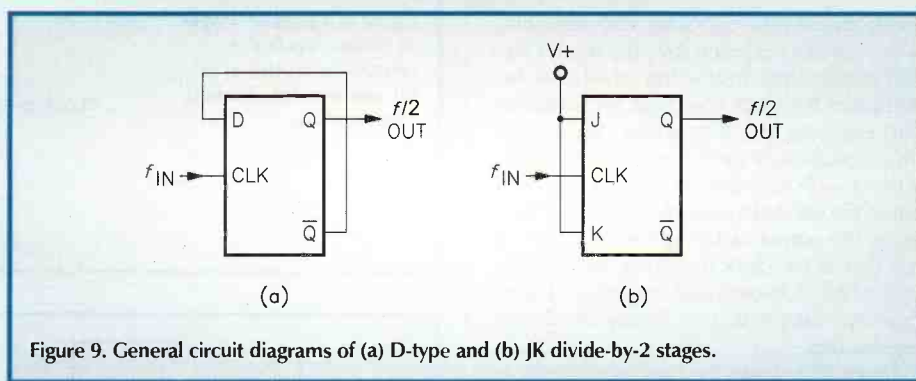
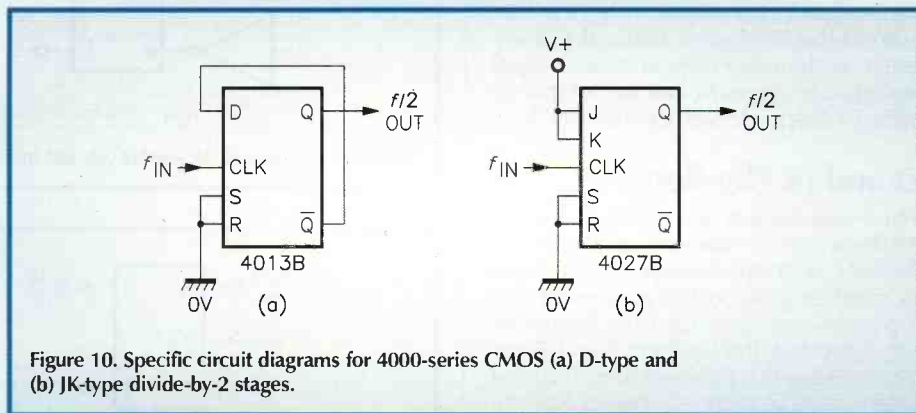
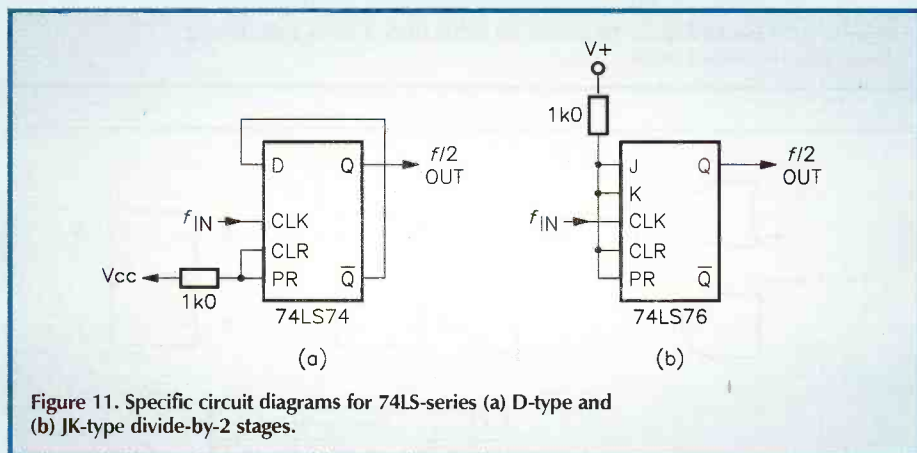

Figure 9. General circuit diagrams of (a) D-type and (b) JK divide-by-2 stages.
Figure 10. Specific circuit diagrams for 4000-series CMOS (a) D-type and (b) JK-type divide-by-2 stages.
Figure 11. Specific circuit diagrams for 74LS-series (a) D-type and (b) JK-type divide-by-2 stages.
Note at this point, that all D-type flip-flops have D and CLK input and Q and NOT Q output terminals, and all JK types have J, K, and CLK inputs and Q and NOT Q outputs, so the basic ways of using any D-type or JK flip-flop in the divide-by-two mode can be presented as in the general or 'universal' circuit diagrams of Figure 9. If an engineer wants to build either of these circuits from a specific IC of the appropriate type, he or she can do so by simply looking up that IC data sheet or truth table to find the appropriate connections for any terminals that are not shown in the general diagram, and then add that data to a 'specific' circuit diagram, as shown in the examples of Figures 10 and 11.
The two Figure 10 circuits are based on 4000-series CMOS ICs; the 4013B Dual D-type has active-high SET (S) and RESET (R) terminals, which can be disabled by tying them directly to ground, as in (a). The 4027B Dual JK type has active-high SET and RESET terminals that can be disabled by grounding them, and has J and K terminals that can be put into the logic-1 state by tying them directly to the V+ line, as shown in (b). The Figure 11 circuits are based on 74LS-series TTL ICs; the circuit shown in (a) uses a 74LS74 Dual D-type IC, which has active-low PR and CLR inputs that can be disabled by tying them high via a 1kΩ resistor; the design shown in (b) uses
The most popular application of the clocked flip-flop is as a binary counter, which can be made from individual D-type or JK elements by using the basic connections shown in Figure 9. These circuits give a divide-by-two action, and if clocked by a fixed-frequency waveform, give a symmetrical squarewave output at half of the clock frequency.